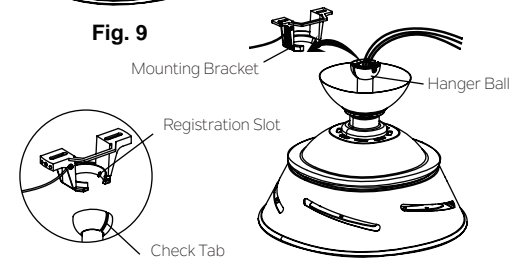

Fig. 10
Step 5. Now lift the motor body into position and place the hanger ball into the mounting bracket. Rotate until the "Check Tab" has dropped into the "Registration Slot" and seats firmly. (Fig. 10) The entire motor body should not rotate if this is done correctly.